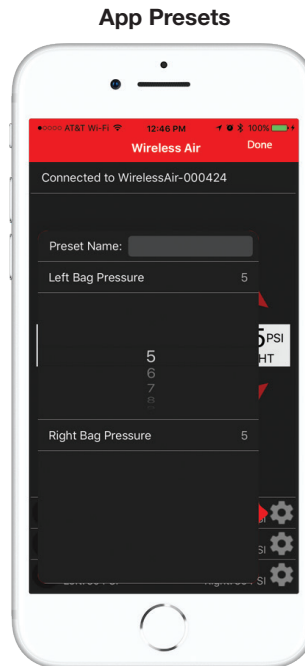

fig. E.4
1. The app must be connected to the manifold to change presets (Fig. E.4). Presets are stored on the manifold, so changes made in the app will also affect the wireless controller and vice versa.